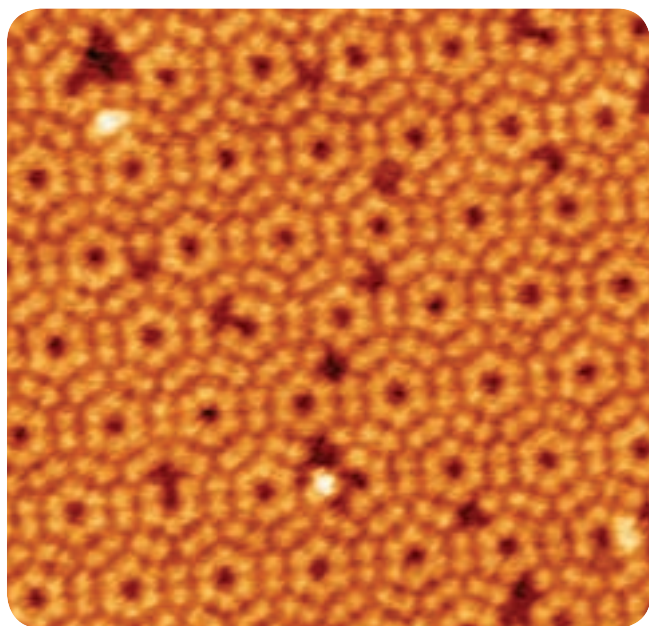

Figure 7.1.7
- in large grid-like structures called lattices (like the one in Figure 7.1.7 on page 250).